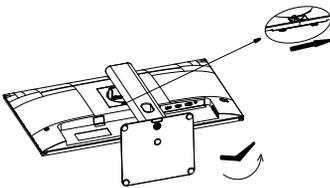

Figure 4
- ① Place the monitor face-down on a flat desk and slide the slider rightward as shown in figure 4.